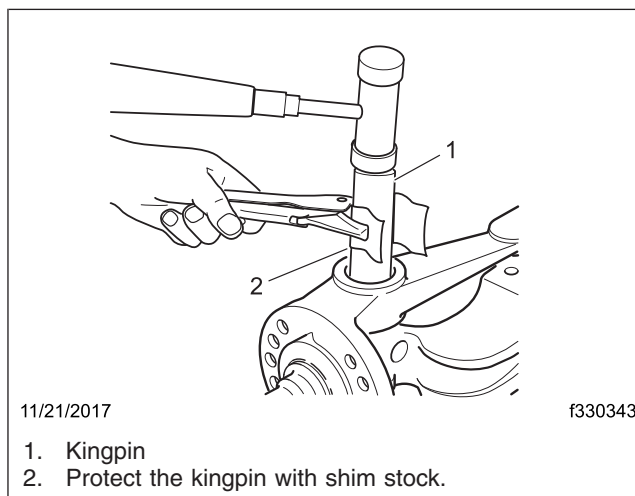

Fig. 20, Tapping the Kingpin in Position
25. Install the kingpin in the knuckle and axle beam. Tap the kingpin in place using a hammer and brass drift if necessary. See Fig. 20.